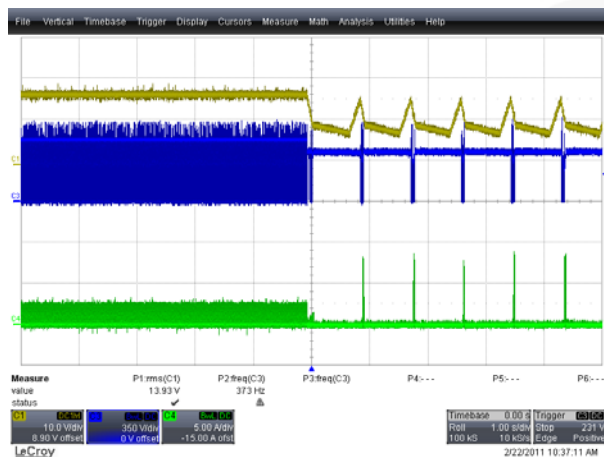
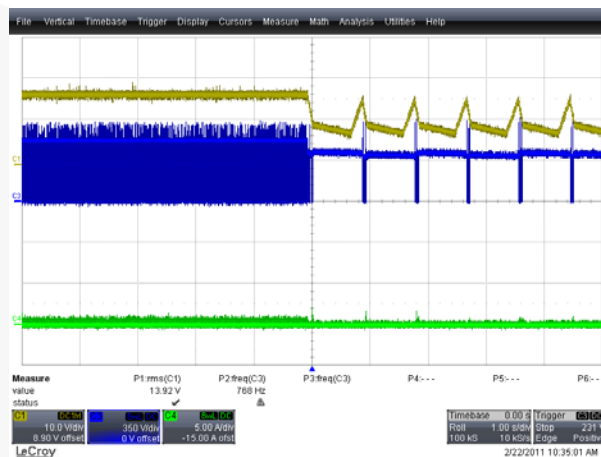

Figure 43. 90 V_{AC} / 60 Hz, CH1 (Yellow): V_{CC(QR)}, CH3 (Blue): V_{DS(QR)}, CH4 (Green): I_{DS(QR)}
Figure 44. 277 V_{AC} / 60 Hz, CH1 (Yellow): V_{CC(QR)}, CH3 (Blue): V_{DS(QR)}, CH4 (Green): I_{DS(QR)}
Figure 43 and Figure 44 show the V_{DS} and I_{DS} waveforms of the MOSFET (QR) at short-load condition. The IC repeats ON and OFF functions in this mode.